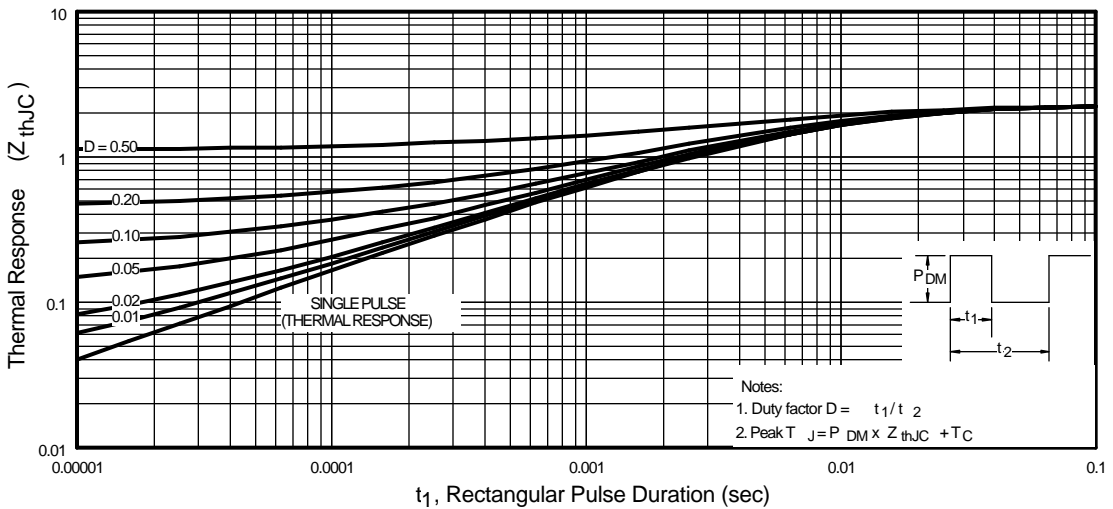

Fig 11. Maximum Effective Transient Thermal Impedance, Junction-to-Case
① Repetitive rating; pulse width limited by max. junction temperature. (See fig. 11)
③ $I_{SD} \leq 16\text{A}$, $di/dt \leq 420\text{A}/\mu\text{s}$, $V_{DD} \leq V_{(BR)DSS}$,